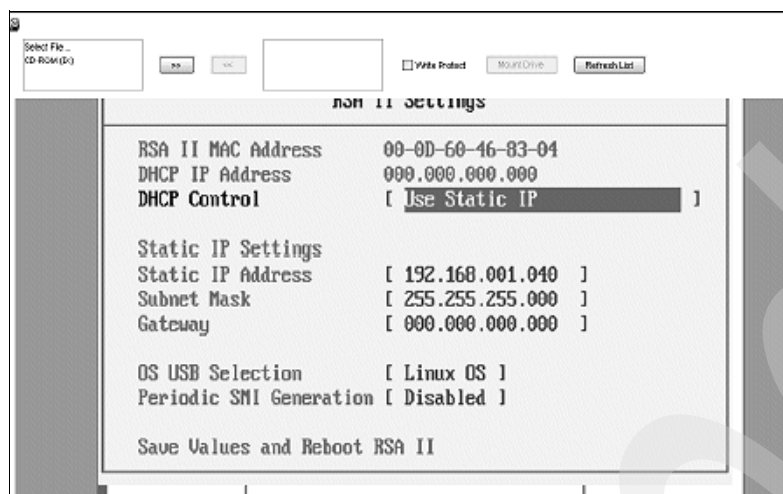

Figure 5-14 Remote Supervisor Adapter II - BIOS RSA II IP address settings
3. In Figure 5-14, you can configure **RSA IP address settings**.